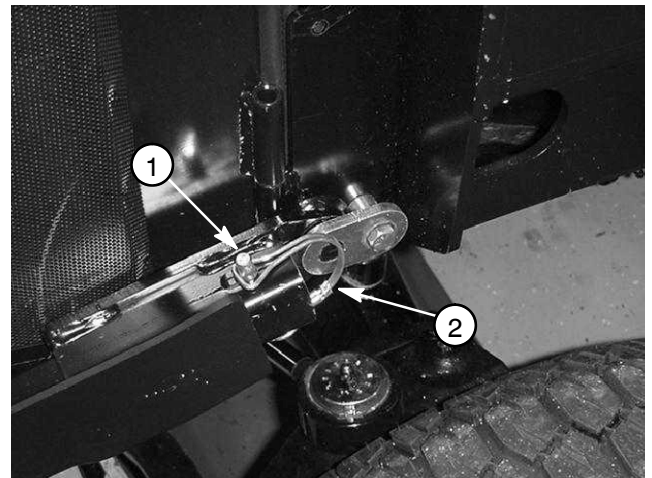

Figure 12
3. Unhook lanyard from hood lock pin, remove pin, and slide hood tubes rearward off guides (Fig. 12).
1. Slide hood tubes onto guides, install hood lock pin, and hook lanyard to hood pin (Fig. 12).